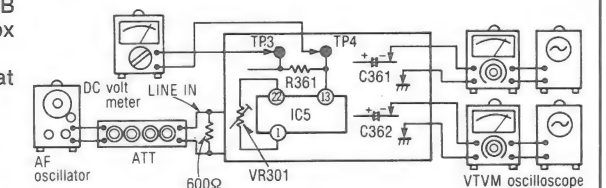

Fig. 20
1. Make the connections as shown in fig. 20 and apply 1kHz  $-27\text{dB}$  signal from LINE IN, and set the noise reduction selector to dbx tape position.